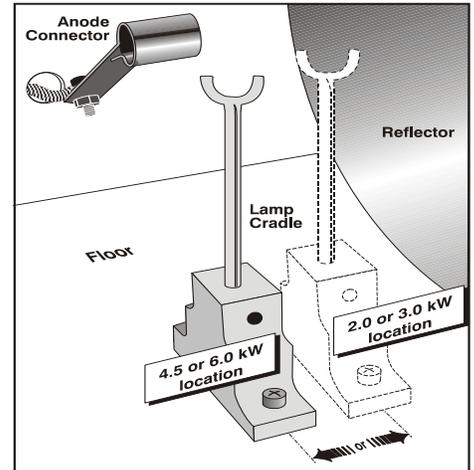

Figure 2-22 Move Cradle Back for 2.0 or 3.0 kW Lamps
- For 2.0 or 3.0 kW lamps, move the cradle to the rear position, i.e., approximately 1” closer to the reflector. See **Figure 2-22**.